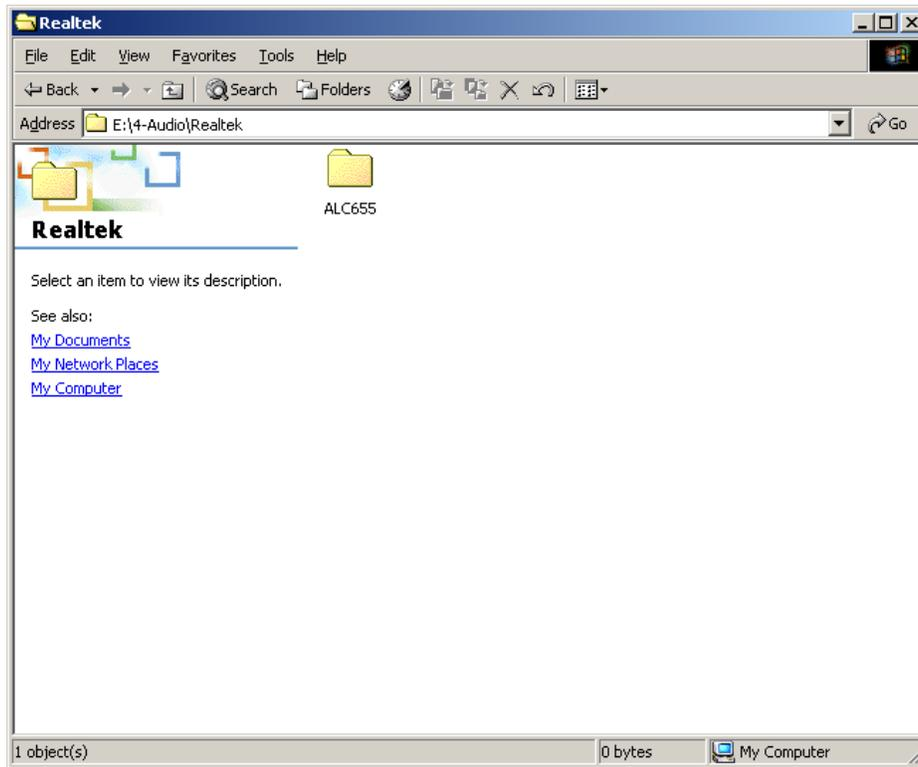

Figure 6-13: ALC655 Icon
Step 5: Select the ALC655 Icon shown in **Figure 6-13**.